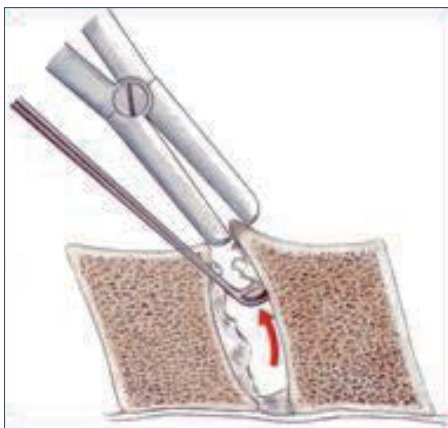

Figure 6
- The upper and lower end plates of the adjacent vertebrae are removed. Large anterior osteophytes are trimmed, yet the original cortical edge is retained. (Figure 6)